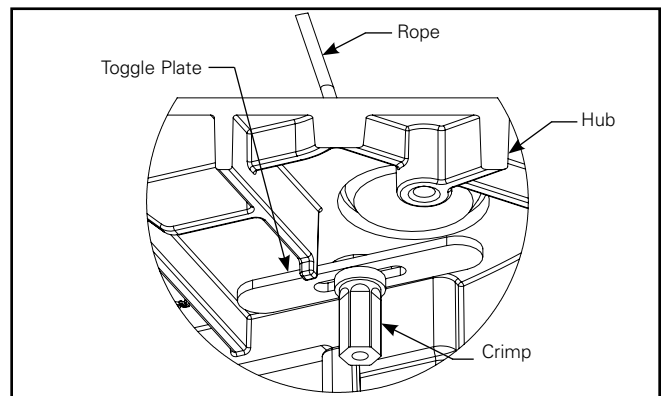

Figure 3.3.
- C. After inserting, ensure the toggle plate thickness surfaces parallel to top surface and not obstructing with ribs of the hub top cover (Figure 3.3). Level unit by making adjustments at mid-point of 4-point cable set.